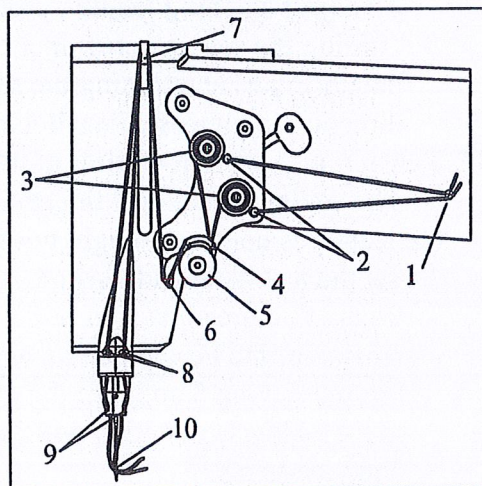

Fig 2
- Rotate the pulley (203) by hand until the needles come to its highest position
- Thread the needle thread by the path indicated in Fig 2